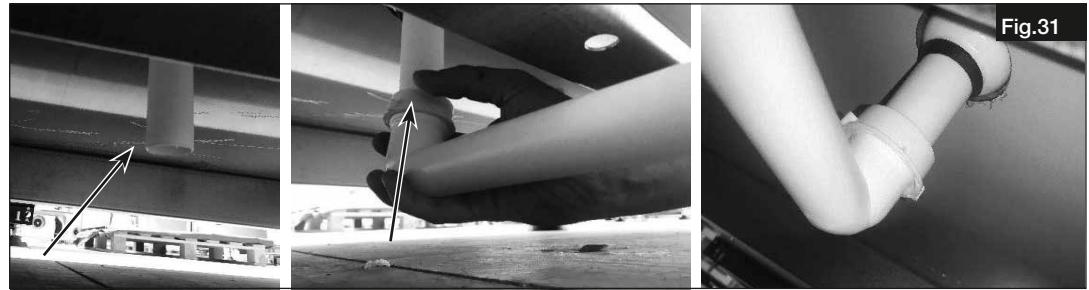

Fig.31
8. Fasten the pipe bend below the condensate tray. Ensure that the pipe is water-tight (see Fig.31).